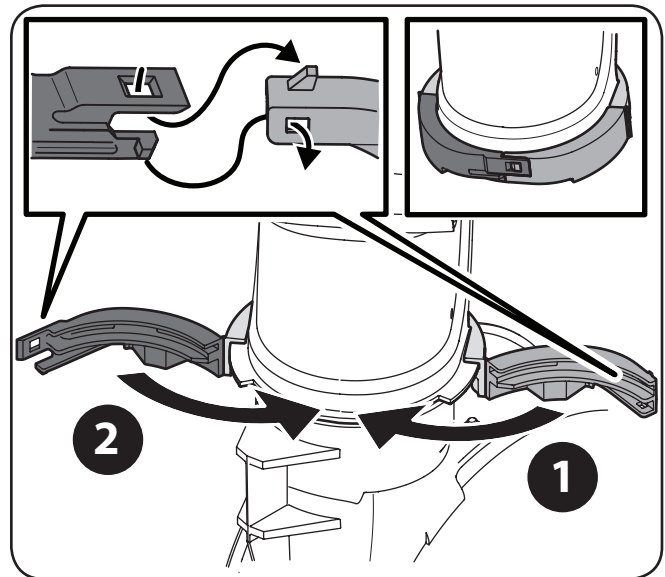

Figure 3-7
- Secure the chute band to itself by first aligning the two snap-fit features and pushing the two ends (1 & 2) together as shown. Be sure both tabs on the two ends engage each other, as shown in the top left inset of Figure 3-7. When properly assembled, the chute band will appear as in the top right inset of Figure 3-7.
IMPORTANT: If you need to remove the chute for any reason, a screw driver must be used to release the locking tabs shown above in the left inset of Figure 3-7.